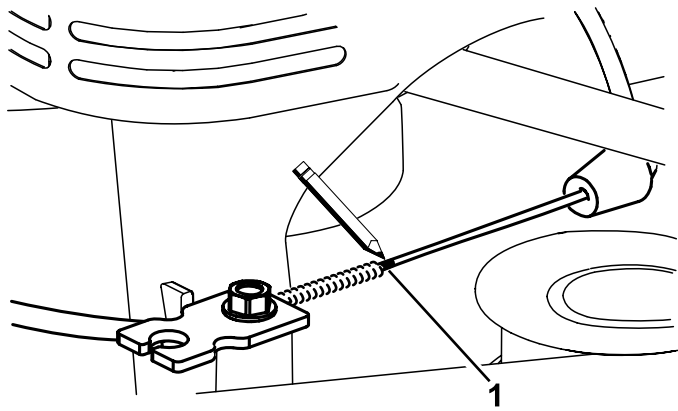
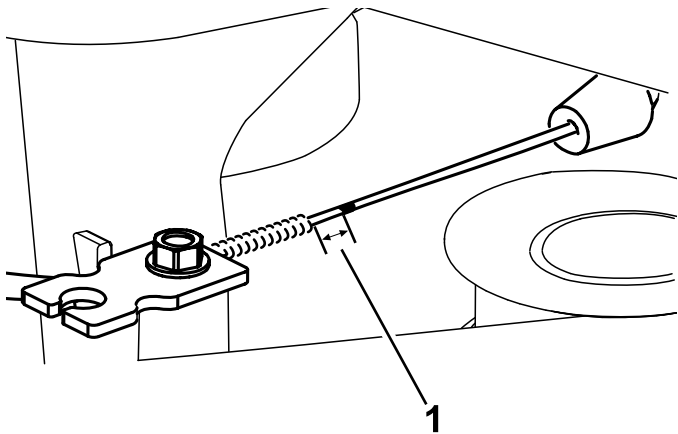

Figure 47
Figure 48
7. Mark the brake cable (Figure 47), then adjust the jacket until there is approximately 11 mm (7/16 inch) of slack (Figure 48).